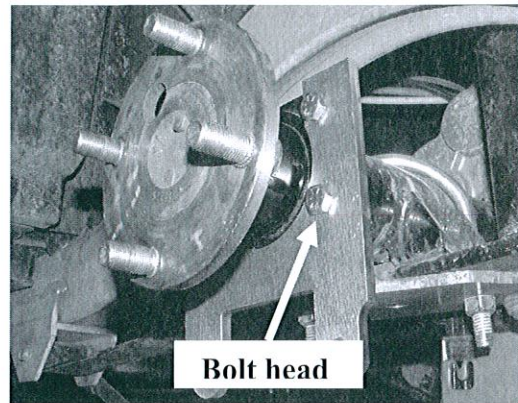

Fig. 5 Installed caliper mounting bracket.
7. Install new brake mounting bracket facing downward onto outside of axle tube bracket. Use the 4 bolts and nuts that were removed in step 2, head of bolt facing outward. Tighten to 18-20 ft-lbs (See Fig. 5)